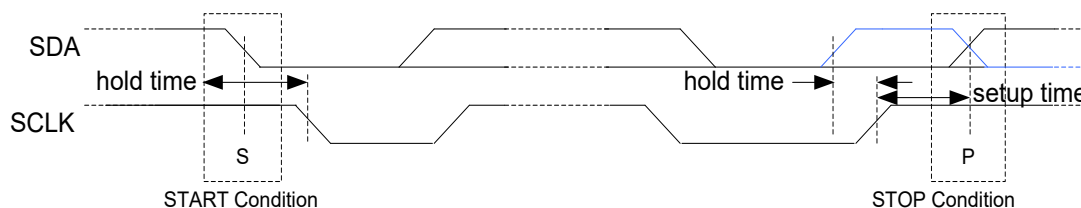

Figure 33. START and STOP (or repeated START) condition
The idle I²C bus state occurs when both SCLK and SDA are not being driven by any master and are therefore in a logic HI state due to the pull up resistors. Every transaction begins with a START (S) signal and ends with a STOP (P) signal. A START condition is defined by a high to low transition on the SDA while SCLK is high. A STOP condition is defined by a low to high transition on the SDA while SCLK is high. START and STOP conditions are always generated by master. This slave module also supports repeated START (Sr) condition which is same as START condition instead of STOP condition (Blue color line shows repeated START in Figure 33).